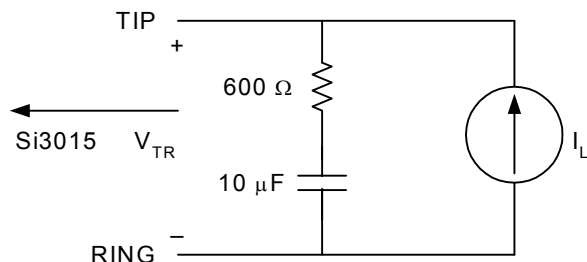

Figure 1. Test Circuit for Loop Characteristics
**Table 2. Loop Characteristics**(VD = 3.0 to 5.25 V, TA = 0 to 70°C for K-Grade and -40 to 85°C for B-Grade, See Figure 1)